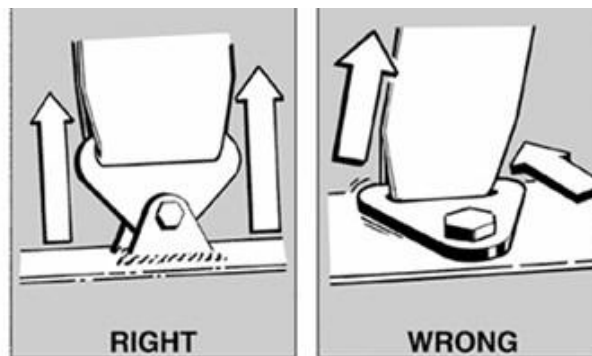

Figure B-35: Driver Harness, Lap Belt Tab Orientation
- a. The frame lap belt tabs shall be no less than 2.3 mm (0.090 in.) thick and configured for double shear mounting. Frame lap belt tabs configured in bending are explicitly prohibited. See Figure B-35.